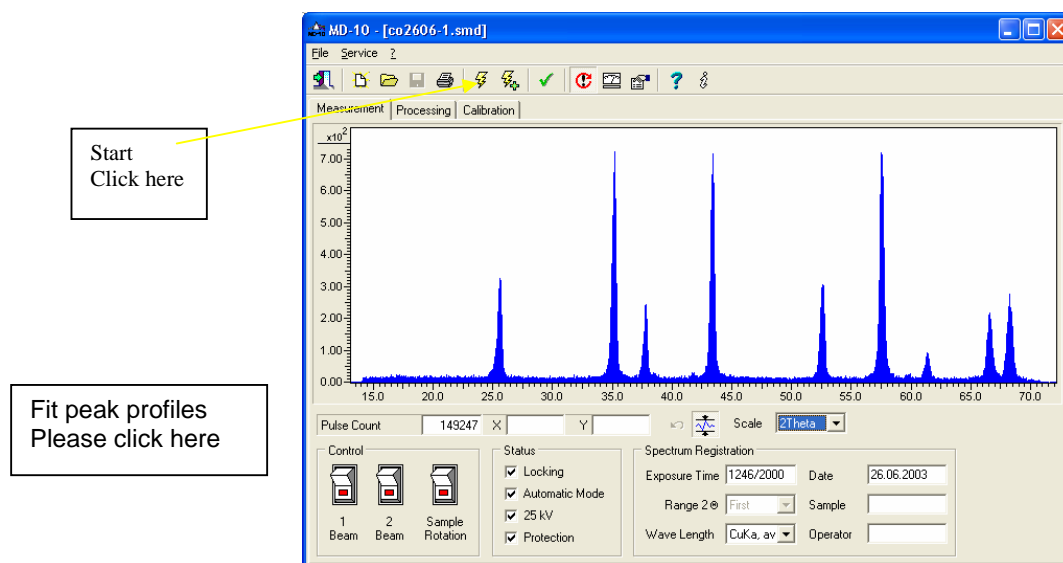

Fig. 6 MD-10 Diffractometer Main Window – Measurement page.
7. Move the switch of the "X-RAY Tube Status" to the position "25 kV". Wait for 10~20 minutes until the "25 kV" **green LED light** becomes stable (Fig. 6), then Push the "PC-Control" button ON (Fig. 5) , then, click and open "MD-10" software on Laptop.
8. "Measurement" Interface will appear as in Fig. 6. Please set an Exposure Time to 800 sec, a measurement Range to "First" , and scale (scale type) to " 2 theta", and always keep Wavelength on Cu-Ka.